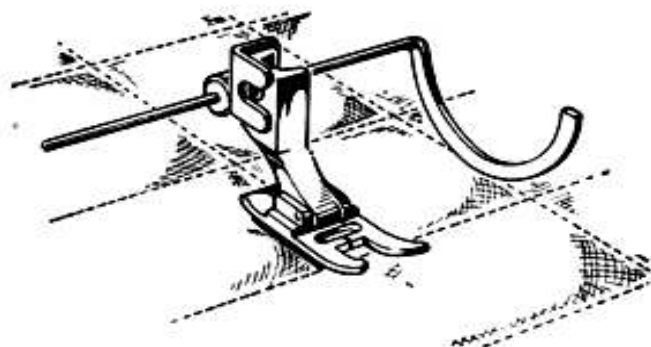

Fig. 33
*Presser foot*: use zigzag stitch hinged foot and attach it to machine together with adjustable quilting guide (Fig. 33, special accessory upon request and against payment).